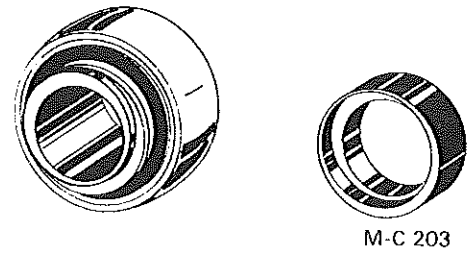

Figure 31
2. Observe cam design of wide inner ring and self-locking collar, see Figure 31.